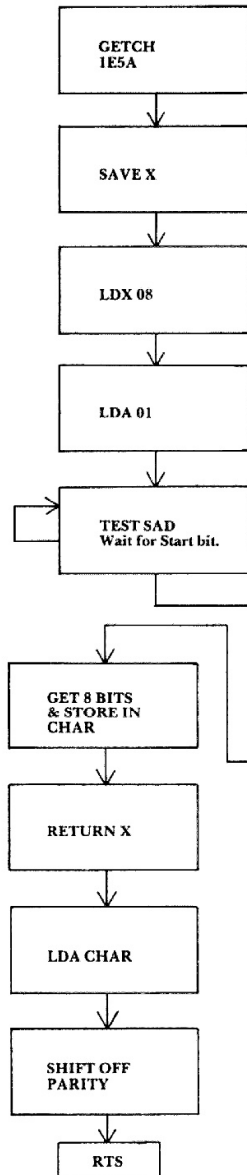
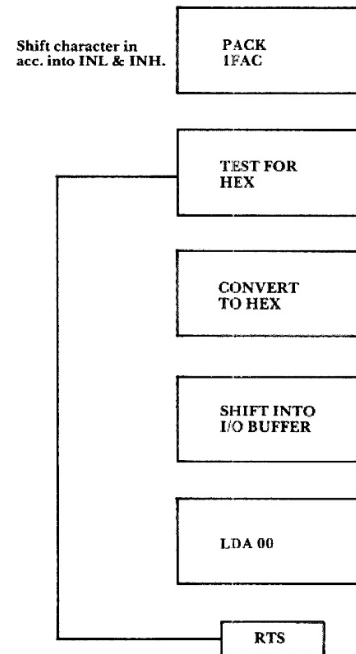

Figure 8. GETCH Subroutine
Figure 9. PACK Subroutine
8. CLEAR. The accumulator gets loaded with 00 and is stored in INL & INH. The program tests for a character in GETCH, Fig. 8. In GETCH it stays in a loop waiting for a start bit. After the start bit, the rest of the character is retrieved and loaded into the accumulator, the program then comes back, and we test for KB mode again. If no KB the character is changed into a hex number in PACK, Fig. 9, and then in SCAN, Fig. 10, the program determines if the hex number is an execute key. If not, it will get another character.